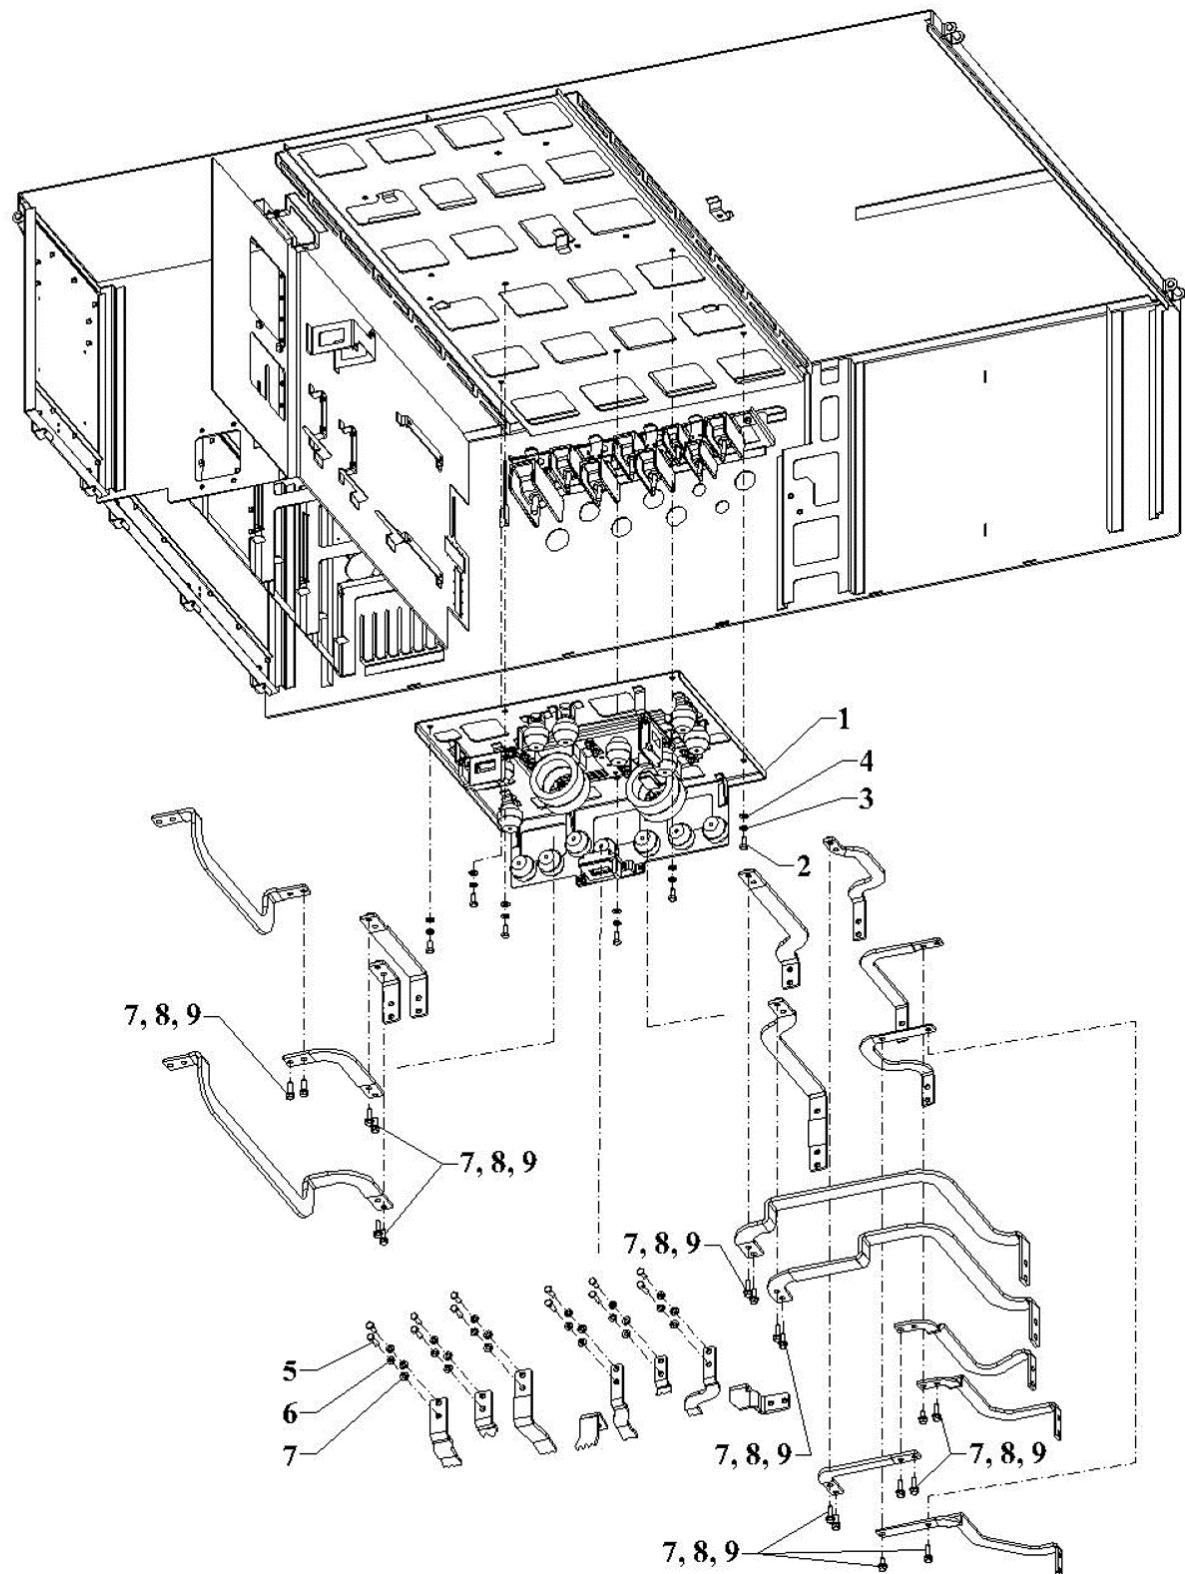

Figure 5-15: Current Transducer Unit 1 Installation
6. Disconnect thirteen bus bars. The bolts (7) are M8 threads so use a 13 mm socket. Refer to Figure 5-15. Also remove the flat washers (8) and lock washers (9).
7. Loosen the five M8 bolts (2) that hold the CT1 (1) frame in place. Remove the bolts, flat washers (3) and lock washers (4). The CT1 can now be removed.
7. Loosen the five M8 bolts (2) that hold the CT2 frame (1) in place. Four are shown in Figure 5-15. Also remove the flat washers (3) and lock washers (4). The CT2 module can now be removed.